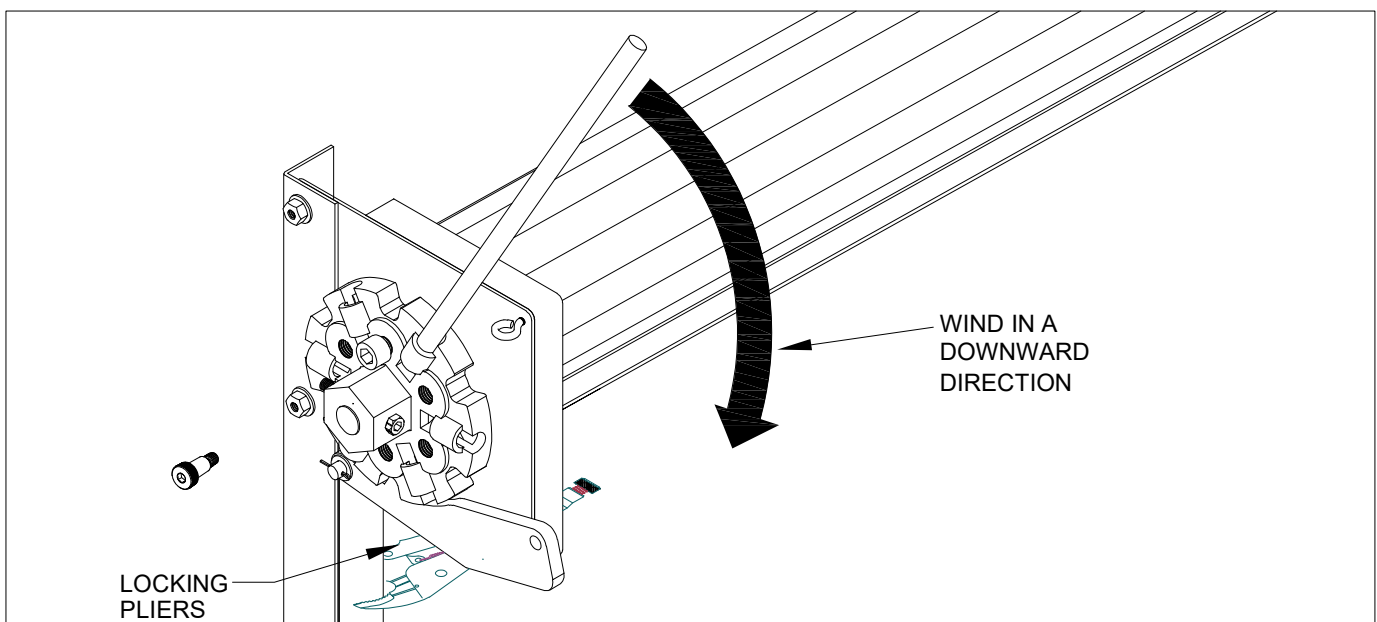

FIGURE 15
- a. Install locking pliers to service cutouts approximately 4" down from bottom bar stops to arrest any downward curtain travel as shown in Figure 15.
- c. Apply tension from the top, downward, as shown in Figure 15 to the preload amount shown on tension headplate label and on barrel sticker.